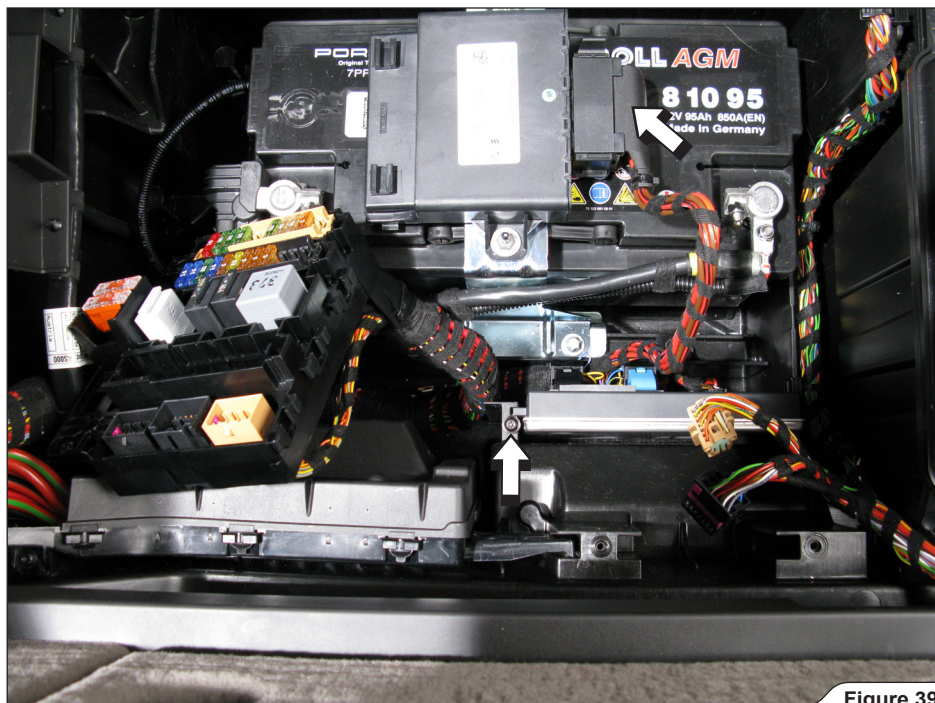

Figure 39
3. Move the fuse box out of the way, disconnect the marked connector and loosen the ECU bolt (Figure 39).